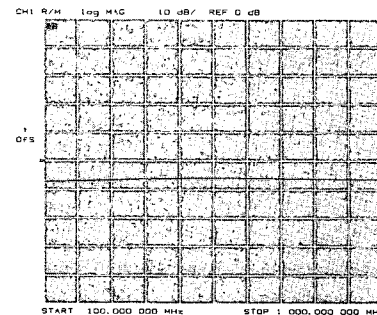

Figure 8. Plot of swept IF/ fixed LO conversion loss of a mixer.
11. Since the mixer's RF input power was chosen to be 0 dBm and the loss due to the IF components was removed, the resulting display shows the swept IF conversion loss of the mixer versus IF frequency. A plot of this is shown in figure 8.